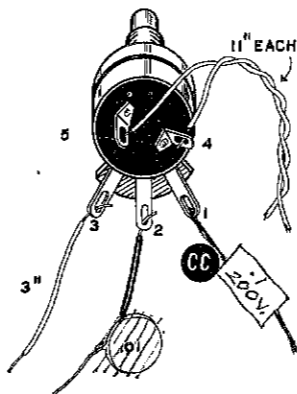
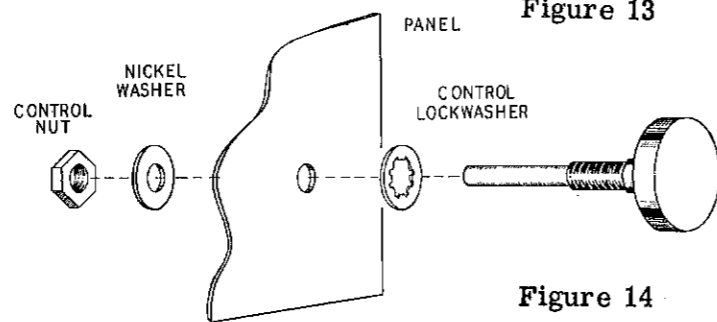
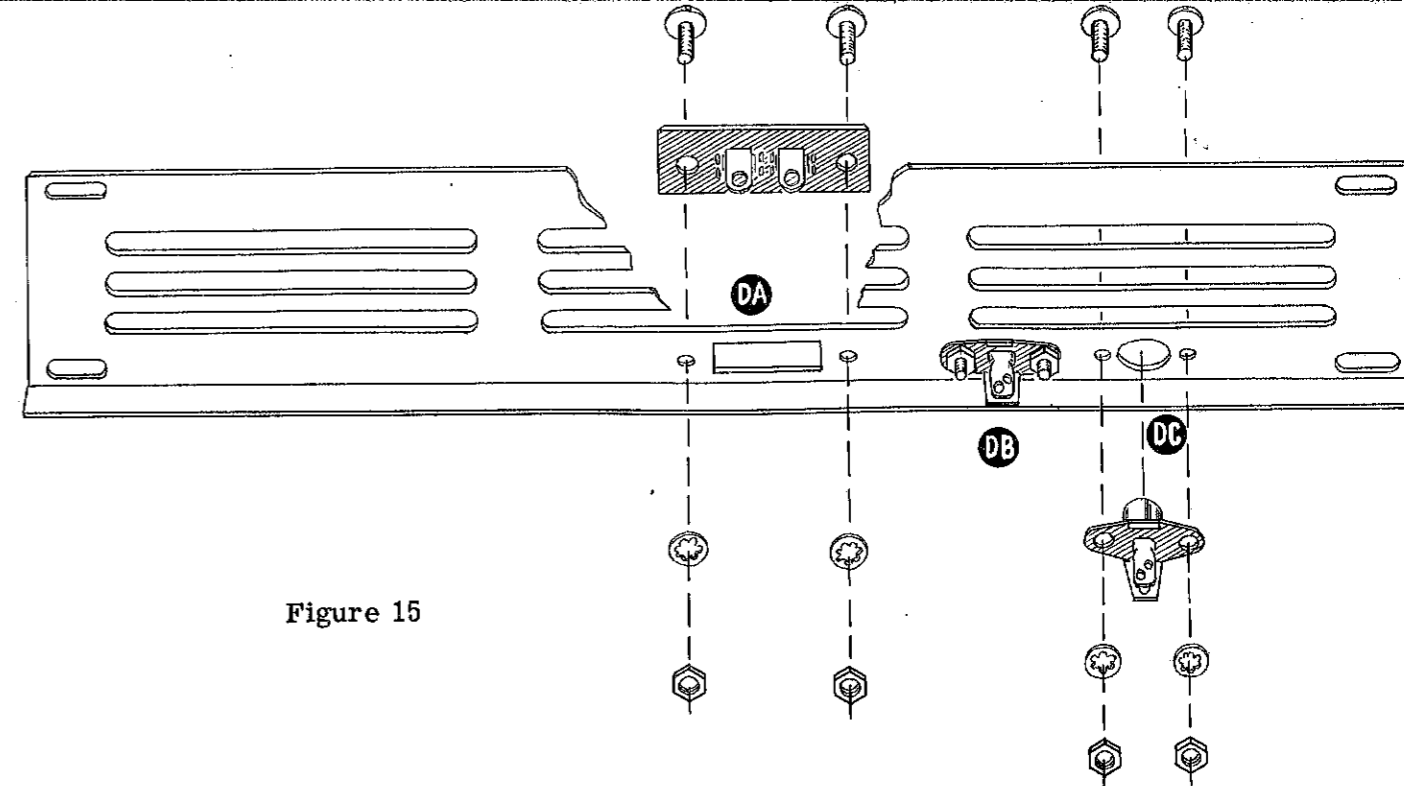

Figure 13
Figure 14
Figure 15
- ( ) Prepare the volume control CC as shown in Figure 13. Slip sleeving over one lead of a .01  $\mu$ fd disc condenser and connect this lead to CC2 (S) (1). Do not cut away any of the leads.
- ( ) Cut a wire to a length of 3", strip and tin both ends and connect one end to CC3 (S) (1).
- ( ) At one end of this cable, connect one lead to control switch terminal CC4 (S) (1) and the remaining free end to CC5 (S) (1).
- ( ) Place a large lockwasher over the control shaft and temporarily install the control through the openings provided in the dial plate and right end bracket. See Figure 14. Tighten the control in place with lugs 1, 2 and 3 pointing straight down over socket F.
- ( ) Pass the twisted leads from CC4 and CC5 through chassis grommet L and dress along the center of the chassis as shown in Pictorial 2. Connect one lead to terminal strip AB2 (S) (2) and the remaining lead to AB3 (NS).
- ( ) Run the free end of the lead connected to terminal strip T2 to control lug CC1 (S) (1).
- ( ) Pass sleeving over the free lead of the .01  $\mu$ fd disc condenser connected to CC2 and connect this end to socket G6 (S) (2).
- ( ) Connect the lead from CC3 to terminal strip T1 (S) (4).
- ( ) Slip a 3/8" rubber grommet over the line cord and pass the cord through grommet BA in the left end bracket from the outside. DO NOT forget the grommet on the line cord. Tie a knot approximately 5" from the end for strain relief. Connect one line cord lead to terminal strip AB1 (S) (2) and the remaining lead to AB3 (S) (2).
- ( ) Identify the antenna coil, which is wound on a 2 watt resistor and has a 10  $\mu$ fd condenser connected across the resistor. Cut both of the resistor leads to a length of 1 1/4". DO NOT cut the twisted leads. Note that the coil with the twisted leads is nearer one end of the resistor. Connect this end to terminal strip AA1 (S) (2), which is the grounded end, and the end furthest from the coil to AA3 (S) (2). The coil assembly must stand straight up, vertical in respect to the chassis, with the twisted leads in line, also vertical to the chassis.
- (✓) Mount the 2-lug screw type terminal strip at location DA on the back panel with 6-32 hardware. Note that the strip mounts on the outside, or painted side of the panel as shown in Figure 15 on Page 23.
- (✓) Install a phono connector at DB on the rear panel with 6-32 hardware. Note that these connectors are installed inside the panel as shown in Figure 15. The ground lug should be nearest the panel flange.